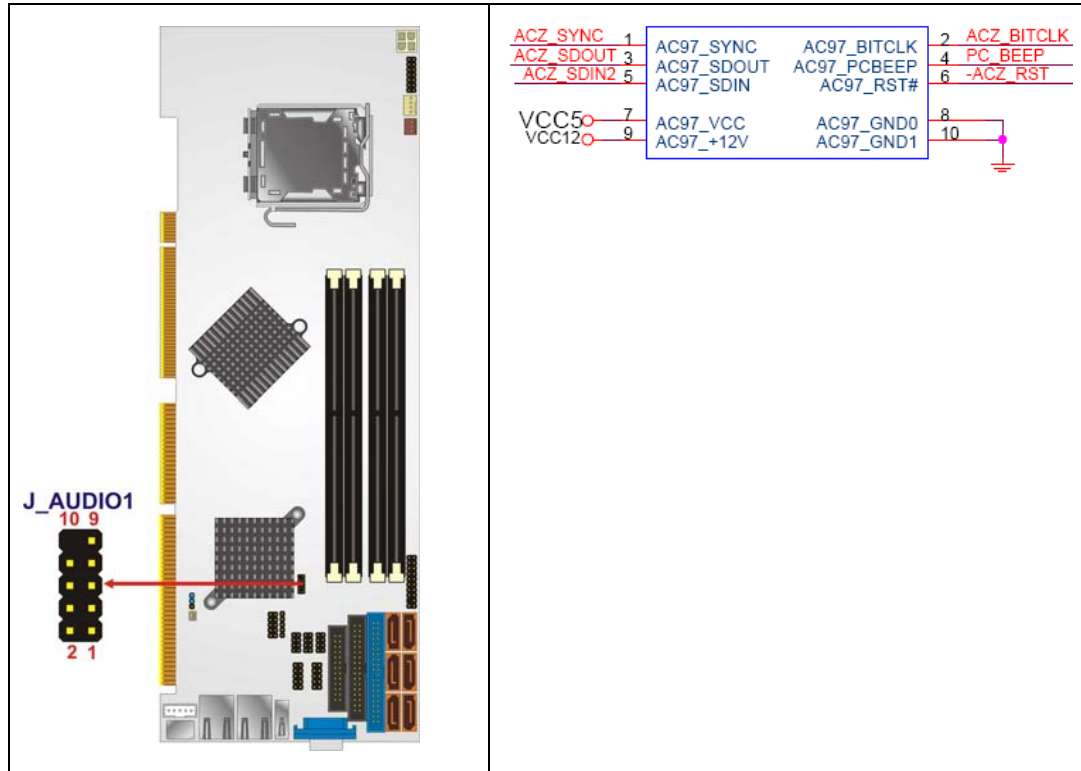

Figure 4-2: Audio Connector Pinouts (4-pin)
- CN Location:** See **Figure 4-2**